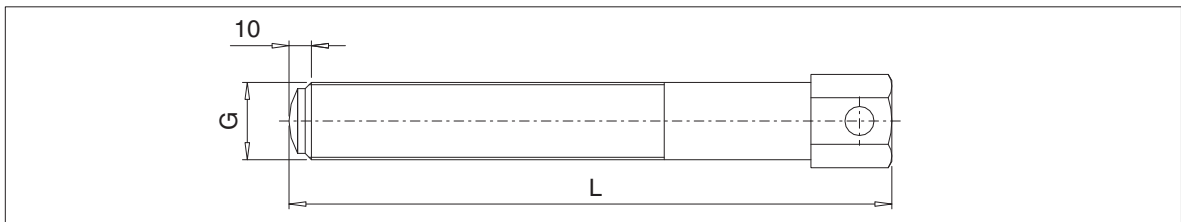

Fig. 14: Forcing-off spindle
- Using a threaded spindle (figure 14) extract the FLUDEX coupling.